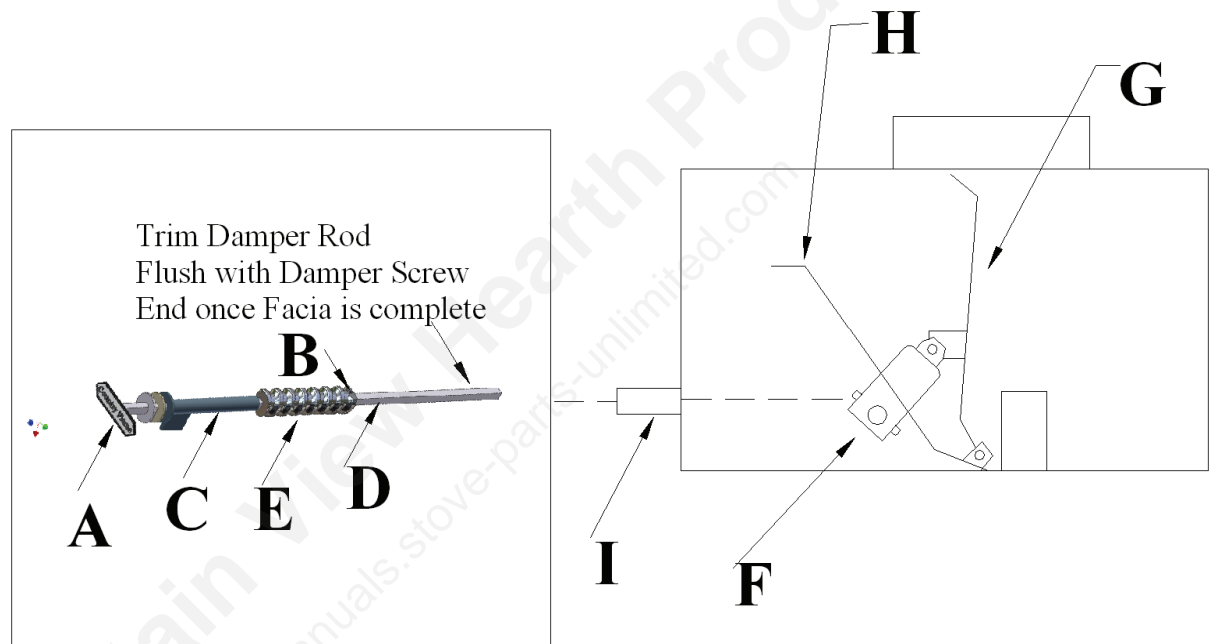
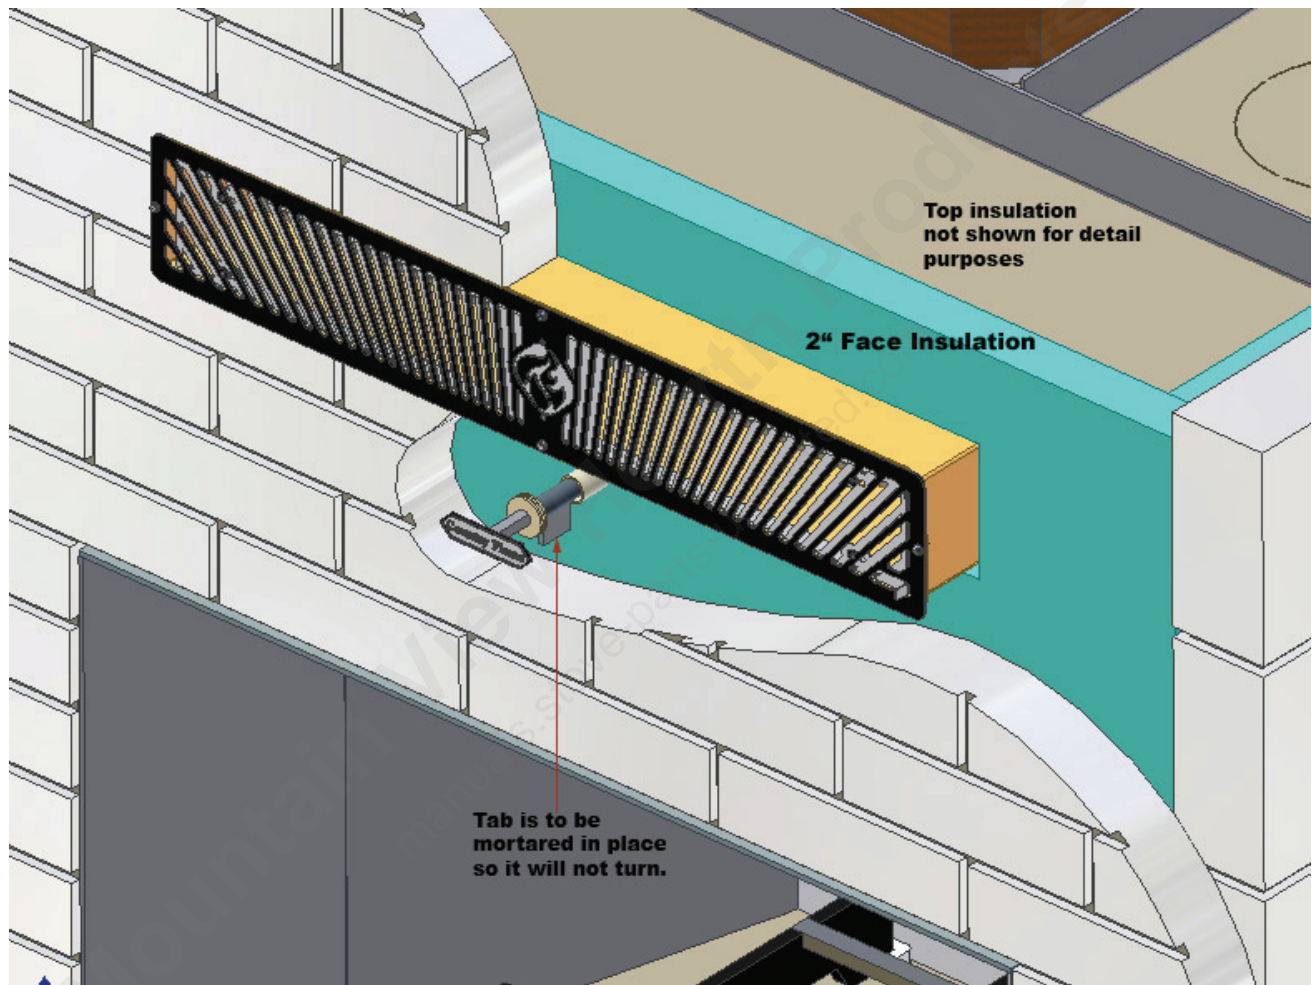

FIGURE 10: DAMPER PARTS
FIGURE 11b: DAMPER DOOR CONTROL
3. FIGURE 10 defines all the working components of the fireplace damper system. When building the front masonry brick, be sure to locate and mortar in the adjustable damper rod sleeve, FIGURE 10, item (C).
Country Flame's rotary controlled flue damper should be assembled as shown in FIGURE 10 after the fireplace is completely installed. The flue damper is extremely important to energy savings, reducing heat loss, and controlling a fire. The flue damper acts as a valve, closing off the opening to the chimney when a fire is not burning. Closing the damper reduces the amount of home heat or air conditioning that will be lost through the chimney.
Step 8 assumes that all masonry is complete and the adjustable rod sleeve, Item (C), FIGURE 10 has been or is ready to be embedded in the masonry veneer so that it cannot move. Refer to FIGURE 11b for more details on embedding Damper Handle Tab in mortar. Review FIGURE 10 to ensure a basic knowledge of each damper part and damper part name. Then follow the steps listed below in order to complete the installation of the rotary controlled damper rod. **WARNING:** Improper installation or operation of the damper system will make any fire difficult to control. Ensure the damper area is free from all construction or mortar debris.
The damper parts shown in FIGURE 10 are defined as follows:
Fireplace should be assembled as shown in FIGURE 10 after the fireplace is completely installed. At this time the adjustable damper rod sleeve (C) will be embedded in the masonry veneer and cannot turn. Follow the steps below to complete the installation of your rotary controlled damper.
1. Begin with the damper door (G) in the fully open position. Insert the damper rod (D) through the adjustable damper rod sleeve (C) from the front of the fireplace.
2. From inside the fireplace guide the washer (J) over the end of the damper rod (D).
3. Reach inside the fireplace and slide the damper screw (E) over the end of the damper rod (D) with the setscrew opening positioned toward the rear of the fireplace.
4. Push the damper rod (D) as far toward the rear of the fireplace as possible. Push the damper screw (E) as far to the front of the fireplace as possible.
5. Mark the damper rod (D) flush with the end of the damper screw (E).
6. Remove the assembly and cut the damper rod (D) off at the mark you made in Step 5.
8. Insert the damper screw (E) into the damper screw bracket (F) and turn it completely counter clockwise until it seats.
9. Slide the end of the damper screw (E) without the setscrew opening over the end of the damper rod (D) and push both the damper screw (E) and the damper rod (D) toward each other as far as possible.
10. Tighten the setscrew (B) at the back of the damper screw (E).
NOTE: At installation, ensure the Damper Handle tab is mortared in place to prevent it from turning during use. Refer to FIGURE 11b for more detail on the Damper Handle.